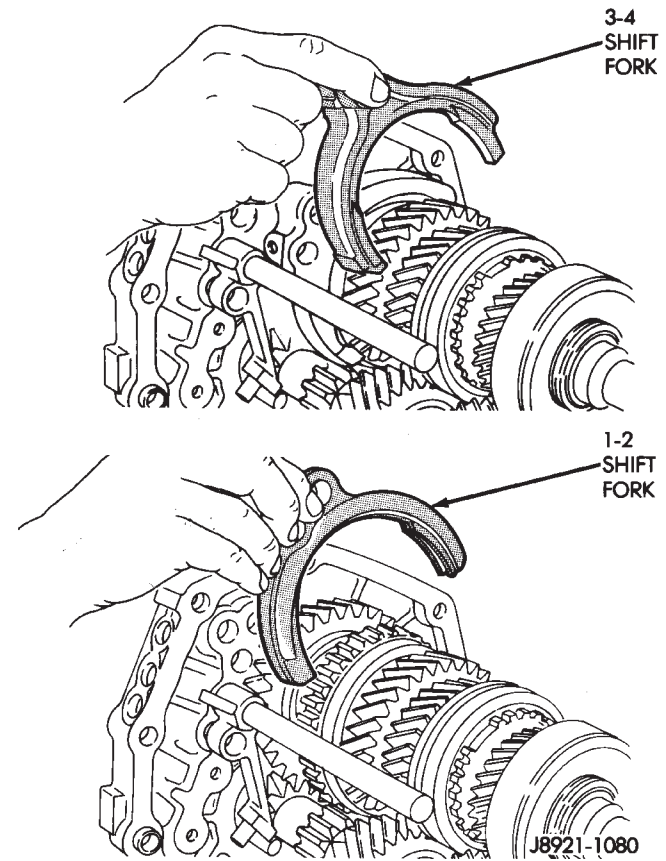

Fig. 84 Install Shift Forks
(12) Install c-ring to hold the reverse shift rail into the intermediate plate.
(13) Install the 1-2 and 3-4 shift forks into the synchronizer sleeves (Fig. 84).